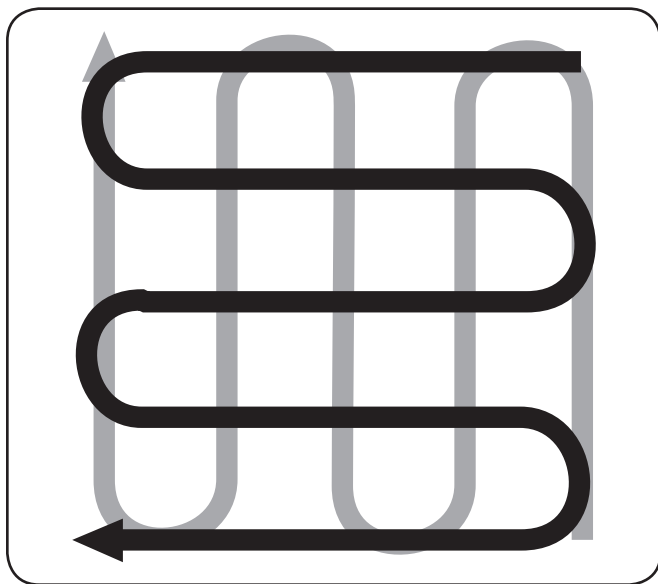

Figure 5-6
- When finished in one direction, make a second pass at a right angle, as shown in Fig. 5-6. Overlap each pass for the best results (in very hard ground, it may take three or four passes to thoroughly pulverize the soil.)